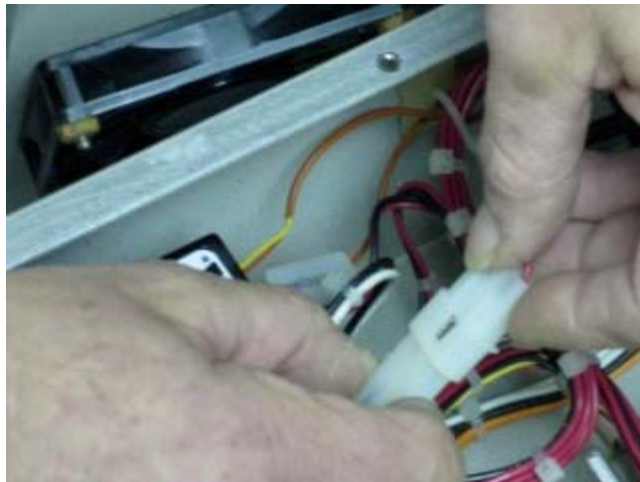

Fig. 2
- 4) Disconnect the fan, and set aside. **Figure 2**